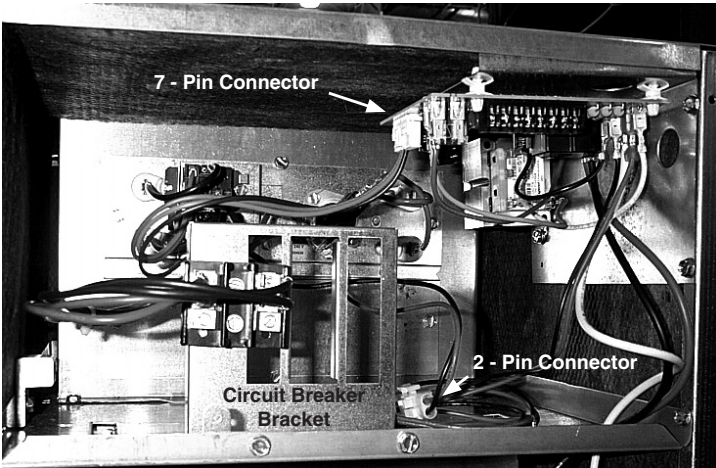

Figure 2. Sample Installation
12. Install the circuit breaker bracket inside of the air handler. Position the tab on the bottom of the bracket into the slot of the control panel box. See Figure 2 \(page 8\) for proper location of bracket.